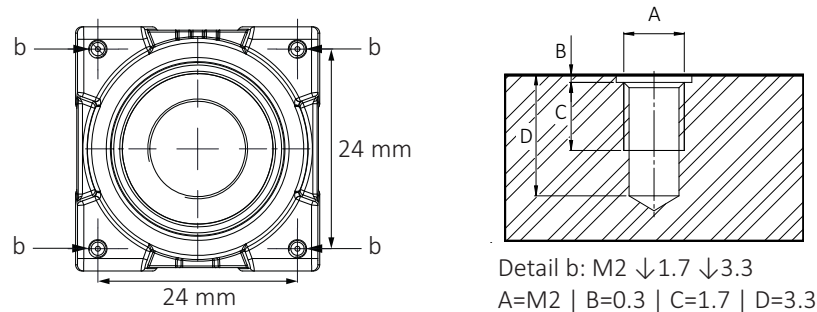

Figure 46: Camera front with mounting threads (c)
1. Mount the camera to the base using suitable M2 screws at 0.17 Nm maximum torque for a thread engagement (C) of 1.7 mm between screws and mounting threads, see Figure 46. For technical drawings, see Dimensions and mass on page 106.